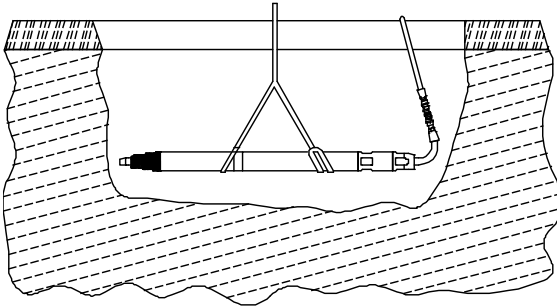

Figure 6-1 Lifting the Hole-Hog
2. Lower the Hole-Hog into the entrance trench, as shown in Figure 6-1.